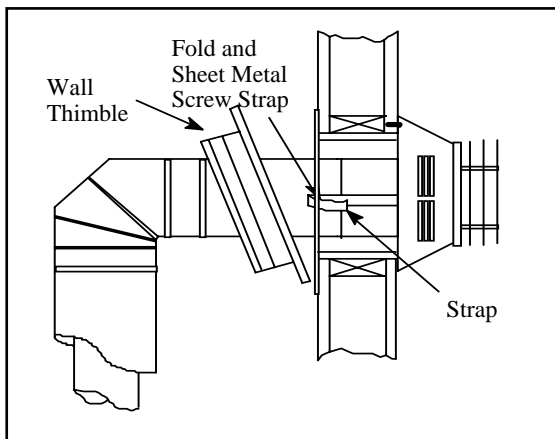

FIGURE 14: HORIZONTAL VENT
STEP 6 Position the appliance and vent against the wall. Insert the vent pipe into the vent cap assembly. It is important that the vent pipe extend into the vent cap sufficient distance so as to result in a minimum pipe overlap of 1-1/4". Secure the connection between the vent pipe and the cap by attaching the two sheet metal strips extending from the vent cap assembly into the outer wall of the vent pipe. Use the two sheet metal screws to connect the strips to the pipe section. Bend any remaining portion of the sheet metal strip back towards the vent cap, so it will be concealed by the decorative wall thimble cover. Refer to FIGURE 14.